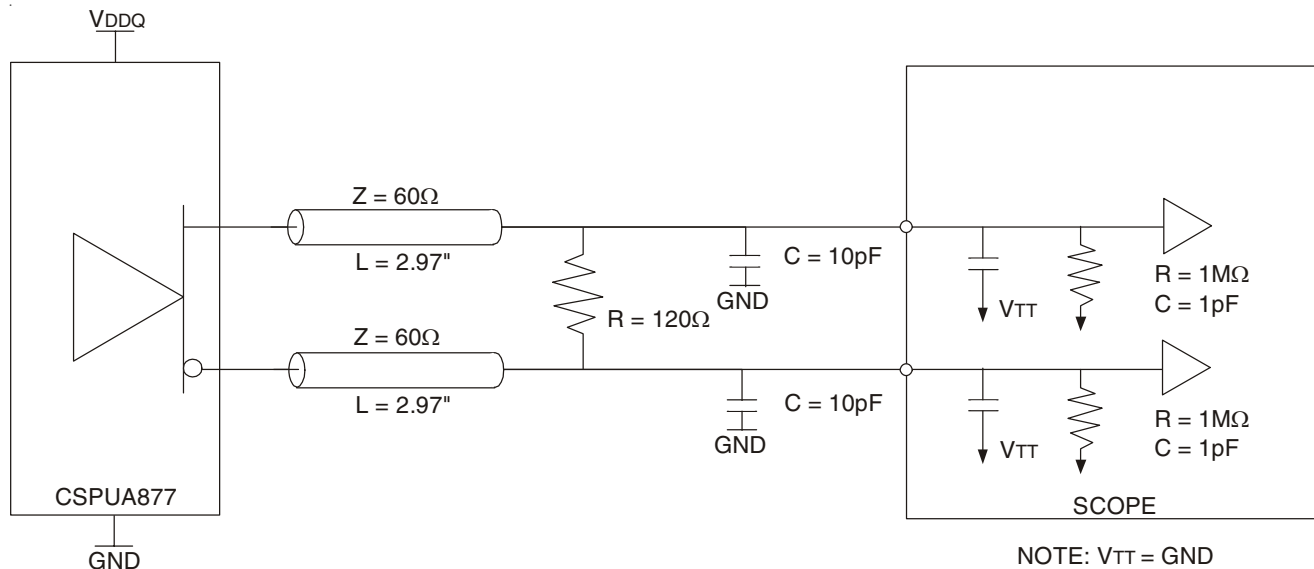

Figure 1: Output Load Test Circuit 1
- There are two different terminations that are used with the above AC tests. The output load shown in figure 1 is used to measure the input and output differential pair cross-voltage only. The output load shown in figure 2 is used to measure all other tests, including input and output slew rates. For consistency, use 50Ω equal length cables with SMA connectors on the test board.
- In the frequency range of 271 - 410MHz, the min and max values for t_{JIT(PER)} and t_{∅DYN}, and the max value for tsk(O), must not exceed the corresponding min and max values of the 160 - 270MHz range. Also, the sum of the specified values for | t_{JIT(PER)} |, | t_{∅DYN} |, and tsk(O) must meet the requirement for Σt(SU), and the sum of the specified values for | t_{∅DYN} | and tsk(O) must meet the requirement for Σt(H).